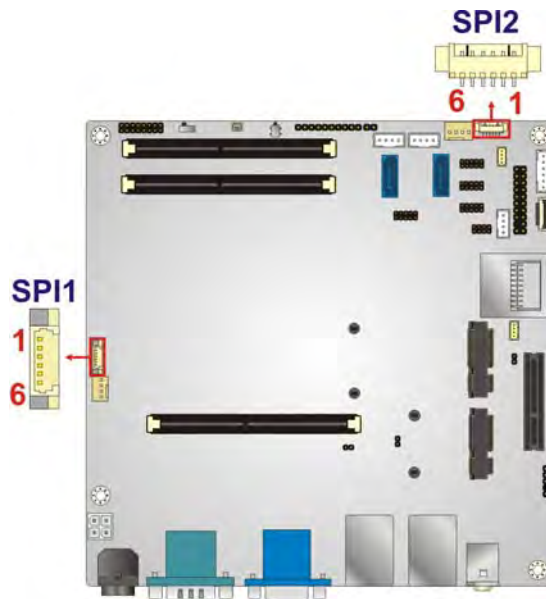

Figure 3-25: SPI Flash Connector Location
- CN Location: See **Figure 3-25**